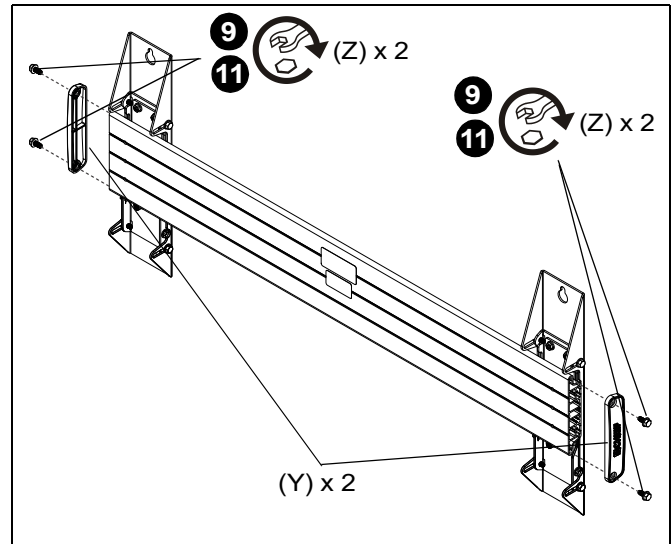

Figure 5
11. Add one end cap (Y) to each end of mounting rail (B) and reinstall using two 1/4-20 x 1/2" Phillips self-tapping screws (Z) for each end cap. (See Figure 5)